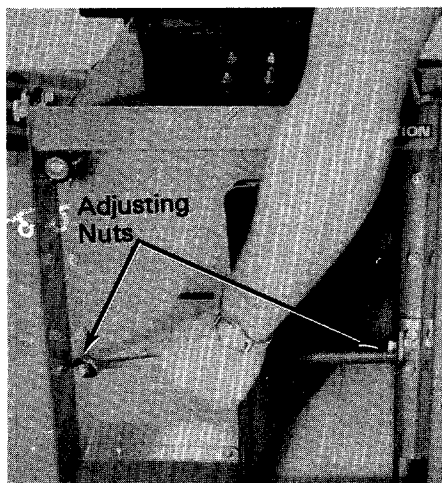

FIGURE 42.
2. Tighten the adjusting nuts as shown in figure 42 until you have the proper tension.